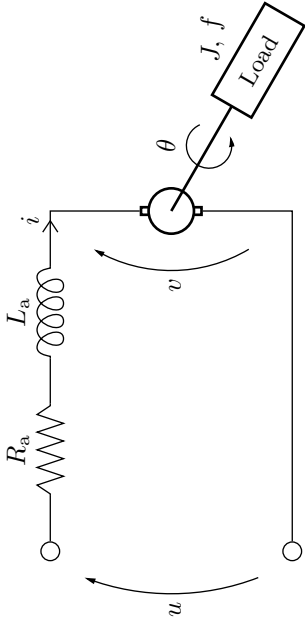

Figure 2.1a
2.1 A common component in a control system is a DC-motor. A schematic picture of the motor is shown in Figure 2.1a. The motor is characterized by a number of physical relationships as will now be explained. The rotating axis is described by